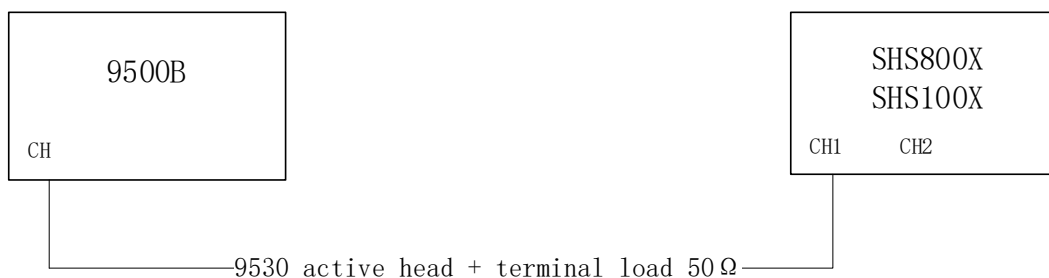

Figure 8 Connecting test instruments for Bandwidth/Bandwidth limit/Trigger Sensitivity
**Note:** “CH” in Figure 8 represents one channel of the 9500B with a 9530 active head and a terminal load  $50\ \Omega$ ; They connect to any channel of the scope according to test.